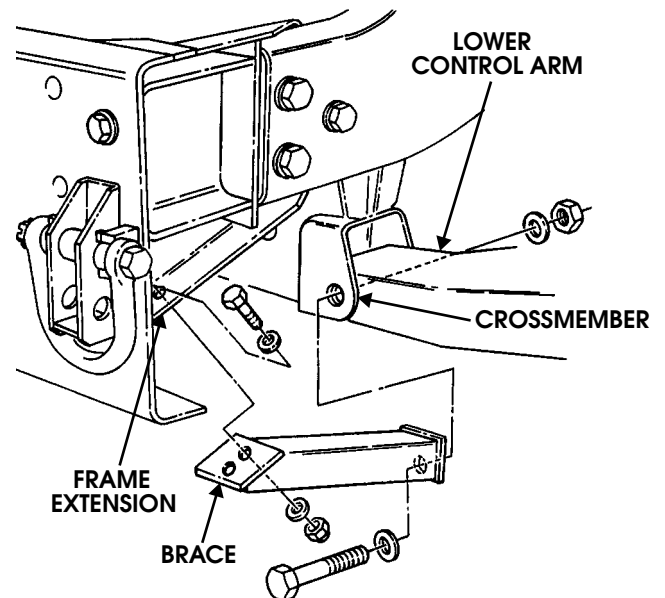

Figure 9-132: Front Suspension Brace Replacement for Vehicles With Winch
1. Remove two locknuts, washers, bolts, and washers securing front suspension brace to frame extension (Figure 9-132).
1. Install brace on crossmember and lower control arm with washer, bolt, washer, and locknut. Do not tighten locknut (Figure 9-132).